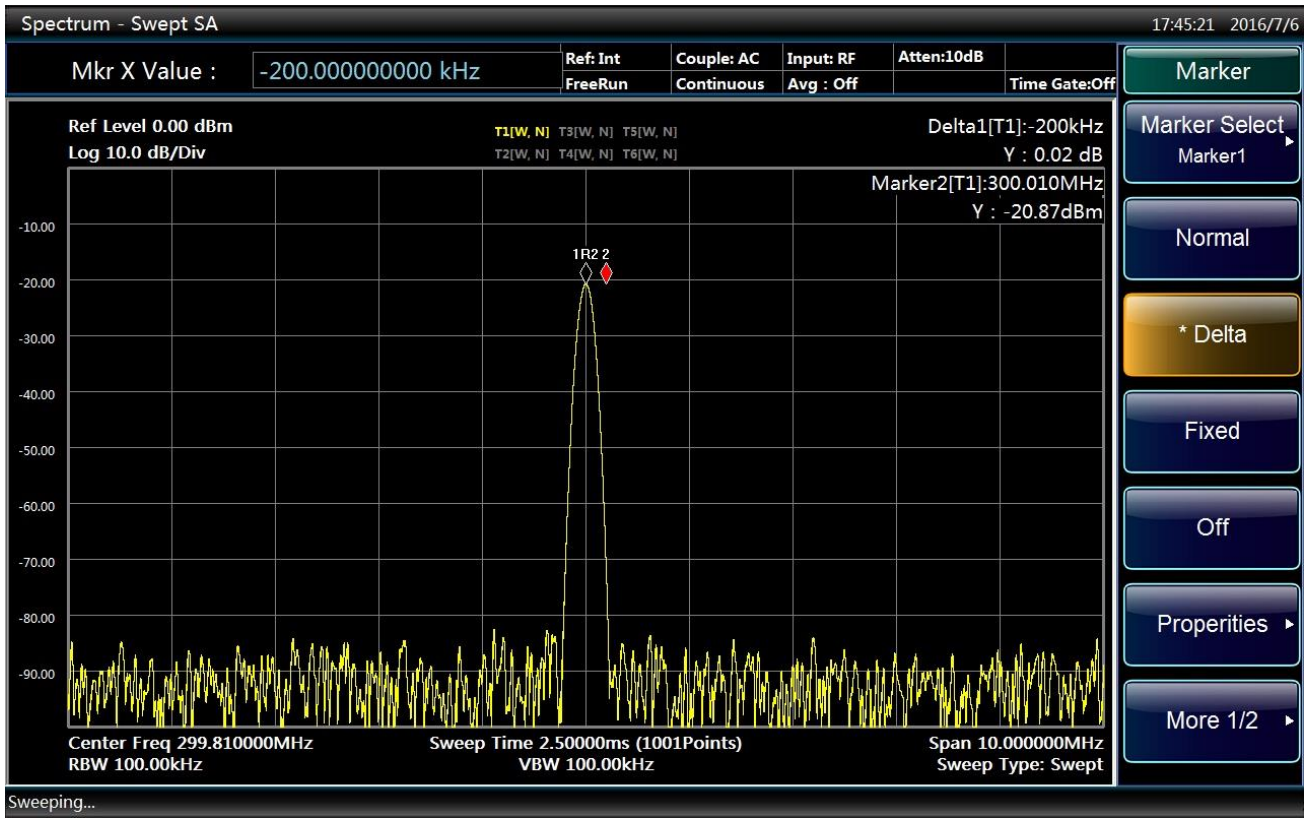

Fig. 4.38 Measurement of drift signal by signal tracking
Step 6. Adjust the output frequency of the signal generator by 100kHz step: the observable center frequency of the Series Signal Analyzer also changes by the stepped frequency of 100kHz, where the step signal is always in the center of the screen display. As shown in Fig. 4.38.